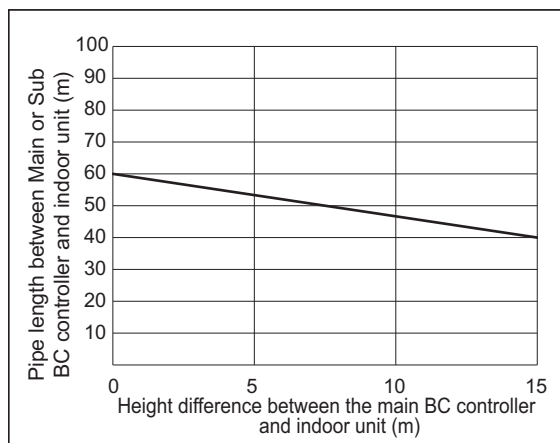

Fig. 2
*2. Details refer to Fig. 2.
*9. When the piping length or the vertical separation exceeds the limit specified in Fig. 2, connect a sub BC to the system.
When using indoor models P/M140 or larger, the restrictions shown in Fig. 2 cannot be exceeded.
When using indoor models P/M140 or larger, the restrictions shown in Fig. 2 cannot be exceeded